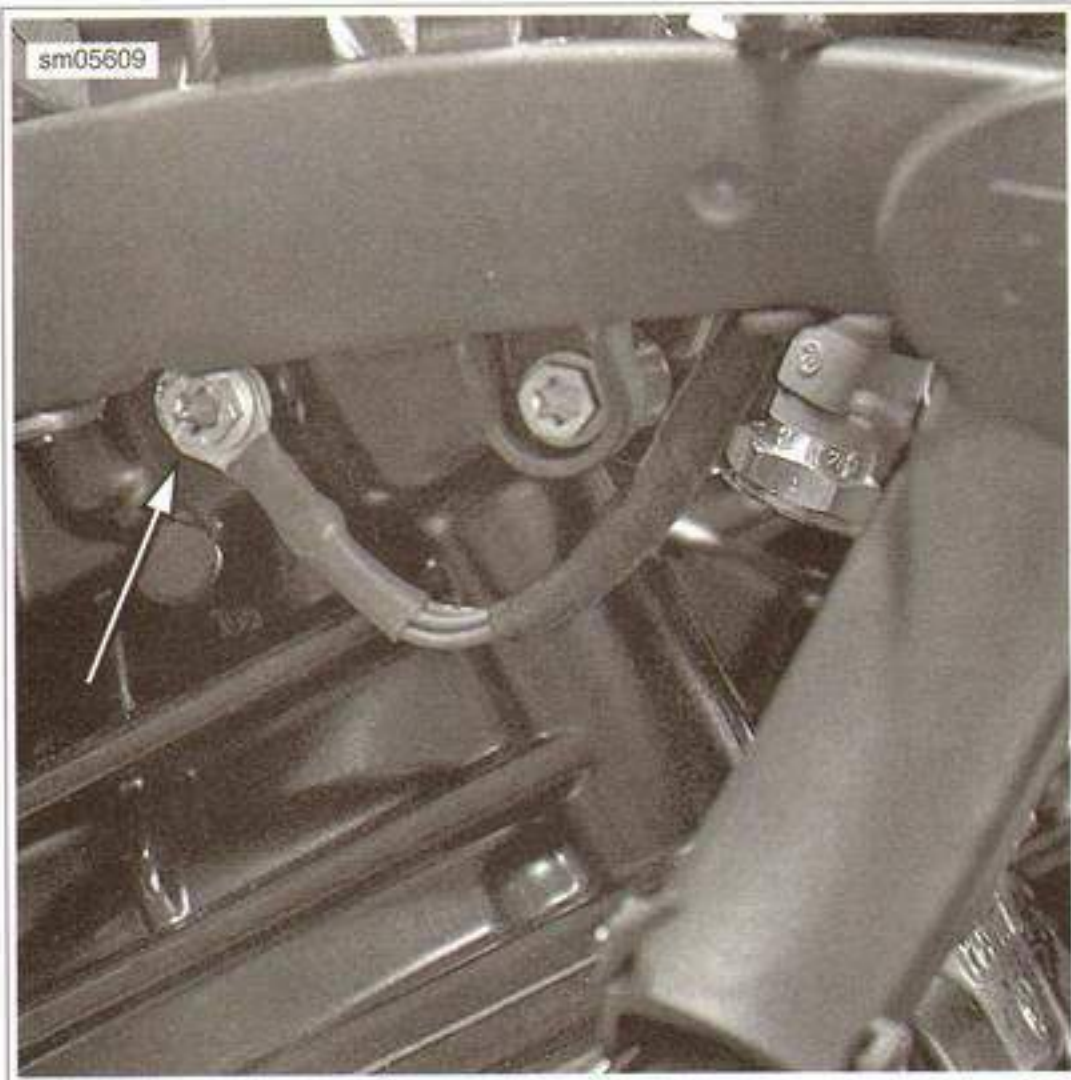

Figure 7-108. Engine Ground Connection
- a. See Figure 7-108. Remove the engine ground connection.